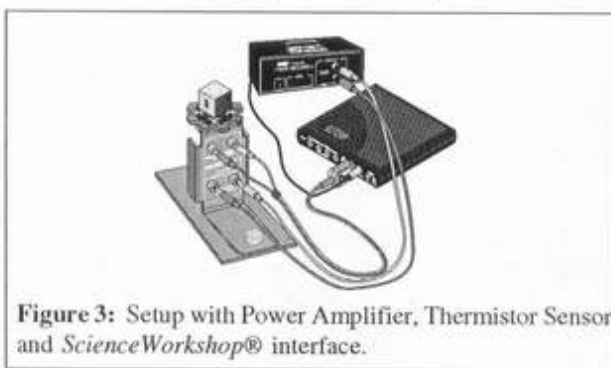

Figure 3: Setup with Power Amplifier, Thermistor Sensor and *ScienceWorkshop*® interface.
2. Plug the DIN connector for the Thermistor Sensor into an analog channel on the *ScienceWorkshop*® interface. Plug the red and black cables extending from the Thermistor Sensor into the upper white-colored jacks on the Thermal Cavity apparatus (see Figure 3).